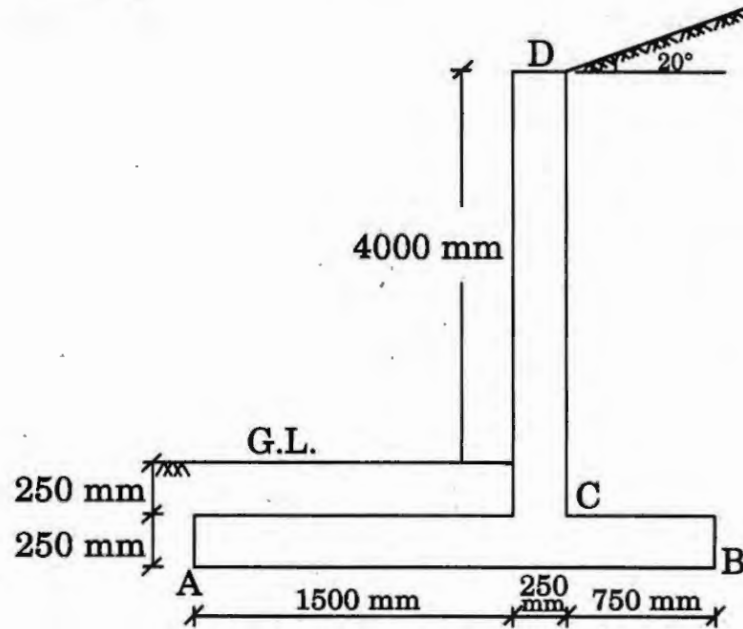

Figure 14
- (c) Check the safety and stability of the retaining wall shown in Figure 14. Safe bearing capacity of soil = 80 kN/m^2 , coefficient of friction between soil and concrete = 0.55 , angle of repose of earth = 35° , density of earth = 19 kN/m^3 .